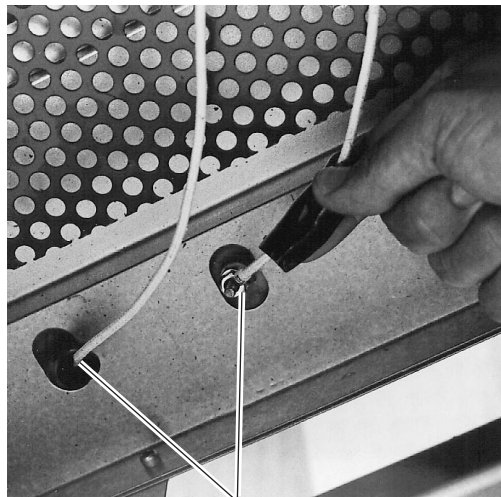

Fig. 42
3. Note and disconnect the terminal wiring. (Fig. 42)